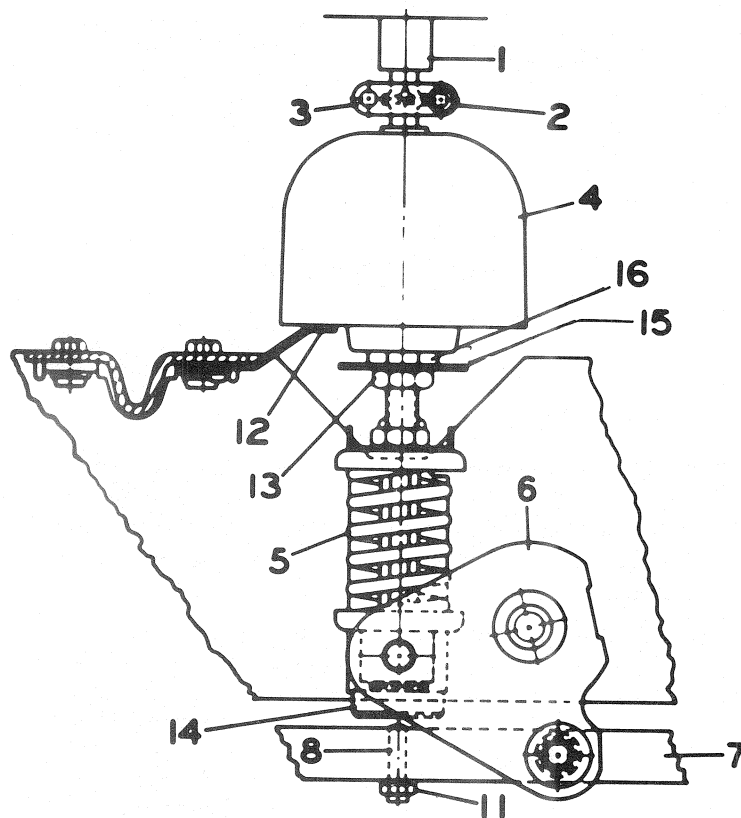

Fig. 12 Primary Contact Gap and Erosion Indication
To adjust, loosen the locking nut, (53) Fig. 4 (¾ hex) holding the stop bolt to the horizontal connecting bar, and then unscrew the stop bolt (¾ hex) to decrease latch clearance while pushing the manual trip push button in and out until the trip roller just starts to turn. (NOTE: Before making adjustments to the trip latch clearance the overtravel stop bolts, (8) Fig. 12, should be backed out of the horizontal connecting bar two turns.) Now, screw in on the adjusting bolt until the roller no longer turns plus an additional ¼ turn. Torque the lock nut to 55 foot-pounds while holding the adjusting screw. This sets latch clearance at a minimum and any mechanism wear will tend to increase the clearance. When 0.060 inch clearance is reached readjustment will be required.
Refer to Fig. 12. Six adjustable bolts, (8) are threaded into the horizontal connecting bar to provide stops for each pole to prevent overstroking the Power/Vac\* interrupters. Each of these bolts should be backed out of the horizontal connecting bar two turns prior to performing adjustments to
Wipe is the additional compression of the pre-loaded wipe spring, (5) Fig. 12, which is used to apply force to the closed vacuum interrupter contacts. Proper adjustment of the wipe springs is necessary to assure that the vacuum interrupter contacts will stay closed against the forces which tend to open them due to fault currents and to supply the propelling energy required to attain the correct opening speed needed for a clean interruption of the current.
- (3) Measure the position of the Operating Rod (4) Fig. 12, relative to the breaker frame. Measure all three phases. (SUGGESTION: place a piece of masking tape vertically on the operating rod and using a block (approx. 2" height) that spans the frames draw a line on the tape to indicate the position when the breaker is closed. Leave the tape in place and in step 6 draw another line on the tape when the breaker is opened. The distance between these lines is the gap for that phase.)
- (4) Remove the trip latch blocking bolt installed in Step 1 and open the breaker by pushing the manual trip push button.
- (5) Repeat Step No. 2 to measure the position of the wipe indicator with the breaker open. Subtract the two measurements of the screw length to obtain the wipe of each phase.
- (6) Repeat Step No. 3 to measure the position of Operating Rod with the breaker in the open position. Subtract the two measurements to obtain the vacuum interrupter contact gap for each phase. (If the suggestion in Step 3 was followed, remove the tape from the operating rod, place it on a flat surface and measure the gaps directly as the distance between the two lines on the tape.)
- (7) Compare the wipes and gap measured with the following chart:
3. Loosen but do not remove the  $\frac{1}{4}$ " hex bolts holding the coupling clamp, (2) Fig. 12. Be sure that the clamp can be rotated freely by hand.
4. Hold the hexagon projection at the bottom of the Operating Rod (1- $\frac{1}{8}$ " wrench) and loosen the adjacent lock nut (13) Fig. 12 (15/16" wrench).
6. After completing the adjustment, torque the Operating Rod Locknut, (13) Fig. 12, to 40-50 foot-pounds while preventing the Operating Rod from turning. Tighten the coupling clamp screws to 10-12 foot-pounds.
In the closed position, the indicator disc, (15) Fig. 12, below the operating rod is aligned with a reference arm (12) on new interrupters. With the breaker in the closed position, the indicator disc after inservice fault interruptions will move upward from alignment with the reference point due to contact erosion. Contact erosion will decrease the wipe which may be brought back to normal by performing wipe adjustment. When erosion reaches  $\frac{1}{8}$  inch (the misalignment of the indicator disc and the reference arm with the breaker closed) the interrupter should be replaced.